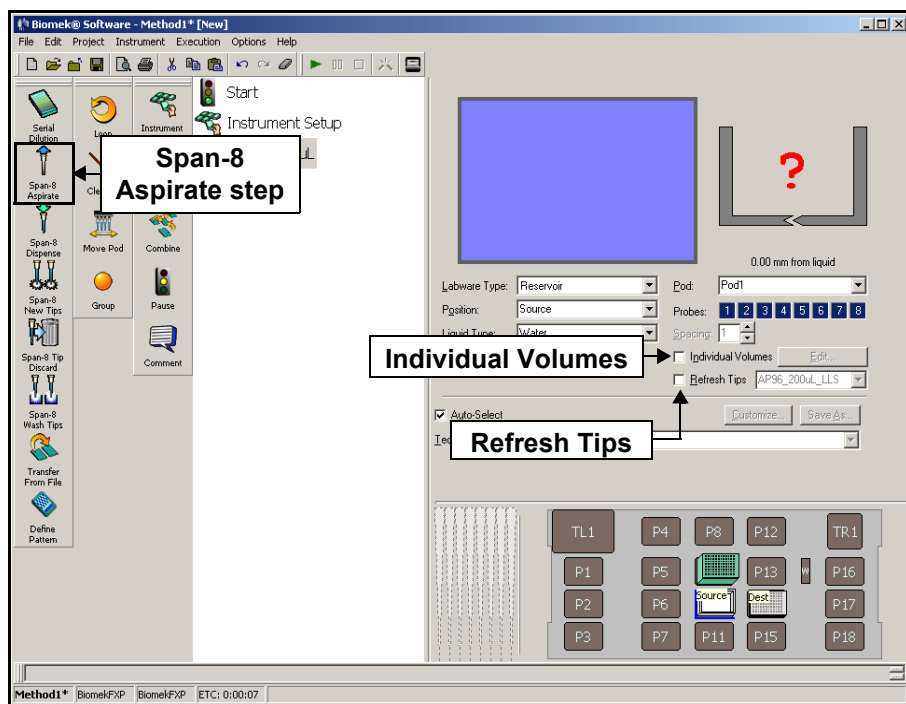
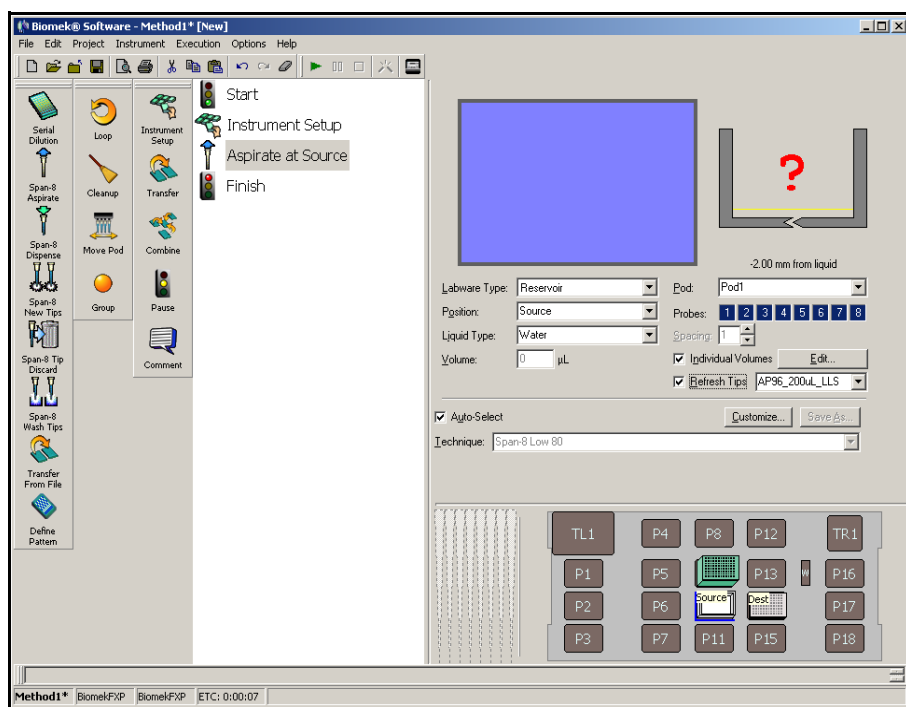

Figure 7-2. Source chosen for Span-8 Aspirate step
Figure 7-4. Span-8 Aspirate step configured
3. In the Current Deck Display, click on **Source** to select it as the labware from which to aspirate. Figure 7-2 appears.
4. Check **Individual Volumes** and select **Edit** (Figure 7-2). Individual Volumes appears.
- From the Span-8 Aspirate step configuration, check **Refresh Tips** (Figure 7-2). This will load new tips before the pod aspirates. Make sure AP96_200µL_LLS are chosen. Your Span-8 Aspirate step is configured and the main editor should look like Figure 7-4.